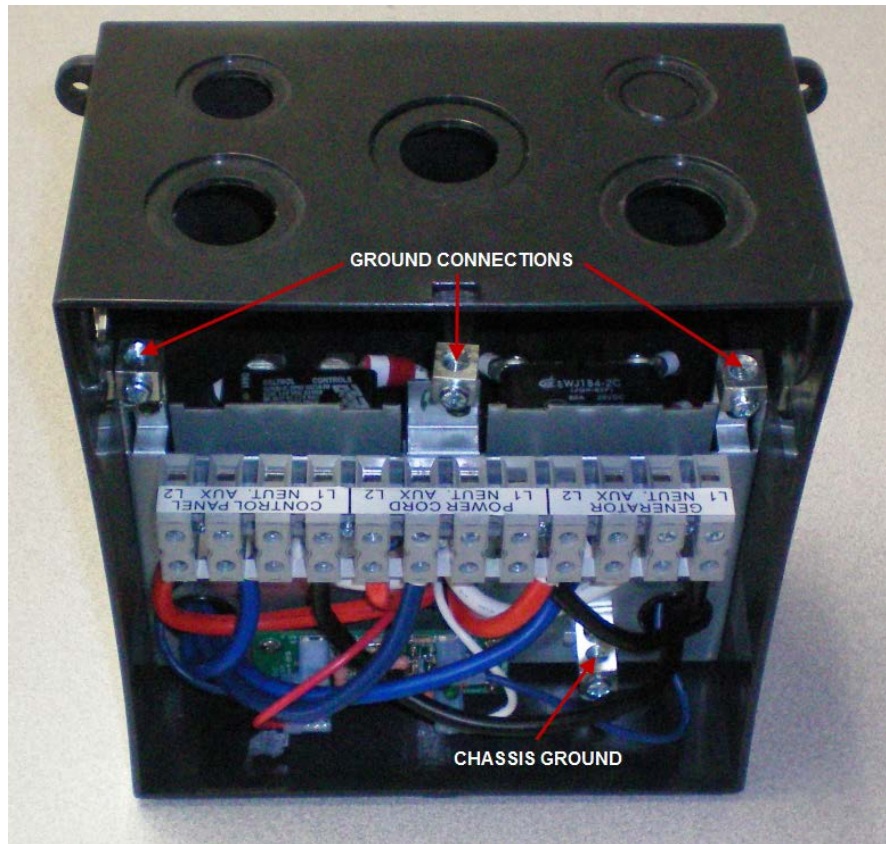

Fig. 2
Step 7 Connect the Generator, Power Cord, and Control Panel wires where indicated on the new transfer switch. The ground wires connect where shown in Figure 2. The AUX connection will not be used and will be left empty.